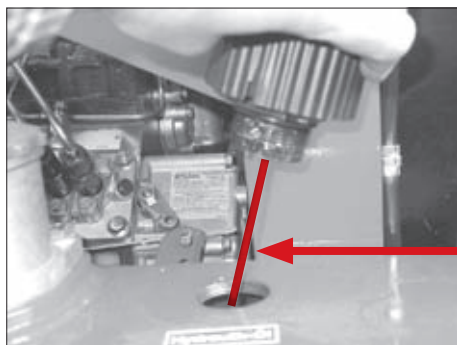

Fig. 84
5. The dip stick is located on the underside of the air filter. Remove the dip stick (Fig. 84).